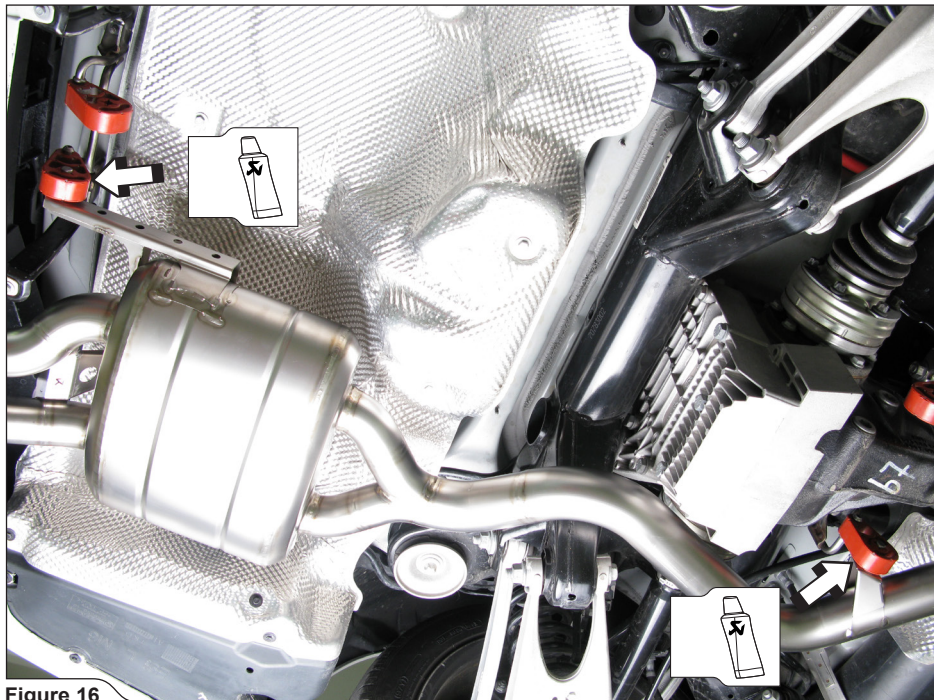

Figure 16
8. Slide both Akrapovič mufflers onto the middle pipes and hang them onto marked stock rubber brackets (**Figure 16**).